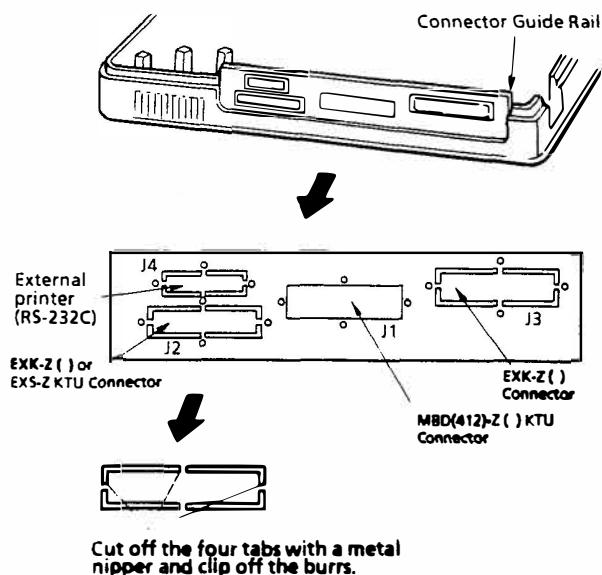

Figure 200-23 Mounting the J Cable Connector
- Remove the KNOCK OUTS on the connector plate using a diagonal cutter. Refer to Figure 200-23 Mounting the J Cable Connector.